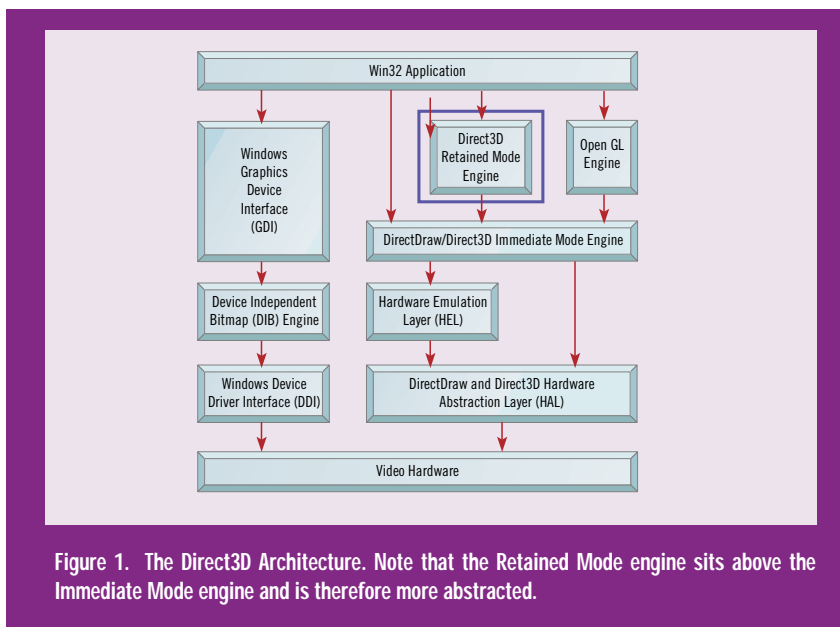

Figure 1. The Direct3D Architecture. Note that the Retained Mode engine sits above the Immediate Mode engine and is therefore more abstracted.
Direct3D Retained Mode is a complete 3D run-time rendering package that runs very fast on Windows 95 and will run on Windows NT in the near future. The Retained Mode (RM) interfaces allow you to create 3D Windows games that take full advantage of the hardware acceleration features of your target machine's graphics card. Figure 1 shows where the RM engine fits into the overall Direct3D architecture.